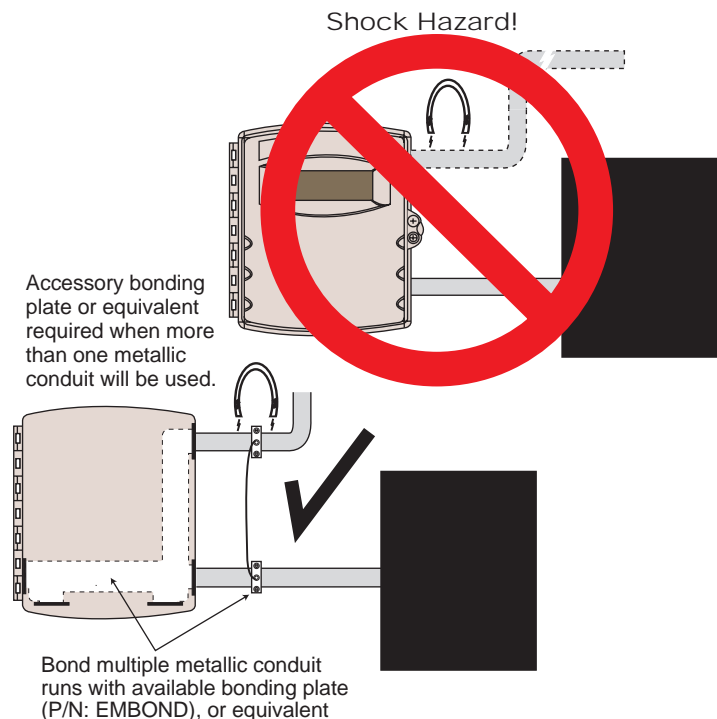

Figure 4: Bonding conduit with bonding plate
2. If the connections to the meter will be made through more than one metallic conduit, bond the conduits (see Figure 4) with a bonding plate (P/N: EMBOND) to prevent the hazard of electric shock.